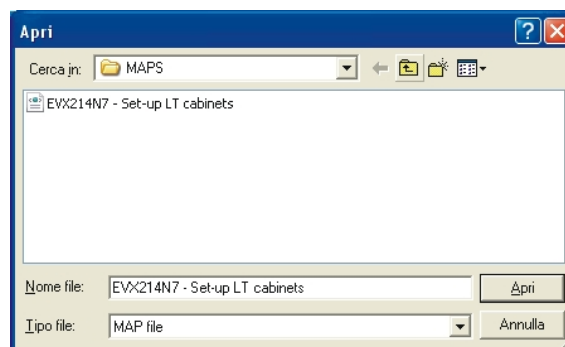

Fig. 25 - Open dialogue window.
3. Enter the pathway and name of the set-up file in the **File name** text box (for example *EVX214N7 - Set-up LT cabinets*; see Fig. 25).